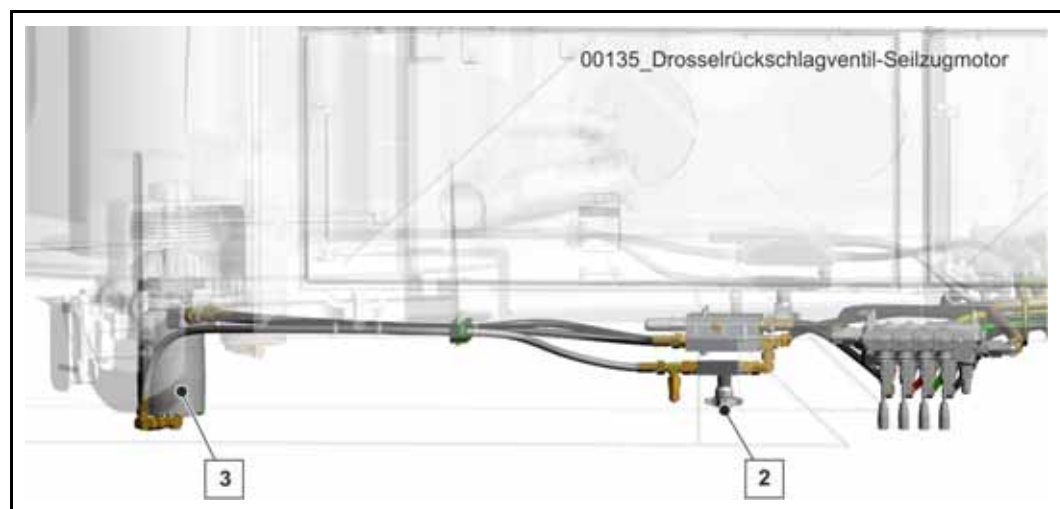

Fig. 306 Wire rope hoist motor (3) with one-way restrictor (2)
- Close the one-way restrictor (2) (**Fig. 306**)
- Release the one-way restrictor (2) (**Fig. 306**) (brake closes and releases again)